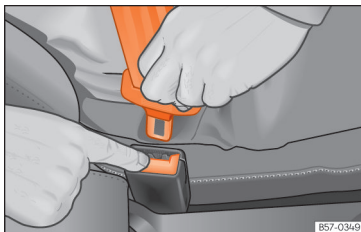

Fig. 26 Release the seat belt's latch plate.
- Press the red button on the buckle »» Fig. 26. The latch plate is released from the buckle.